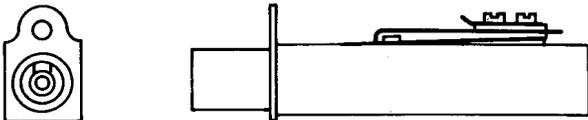

Fig. 22—540-Type Jack
2.18 **540A, B, C, and D:** These are coaxial-type jacks (Fig. 22).